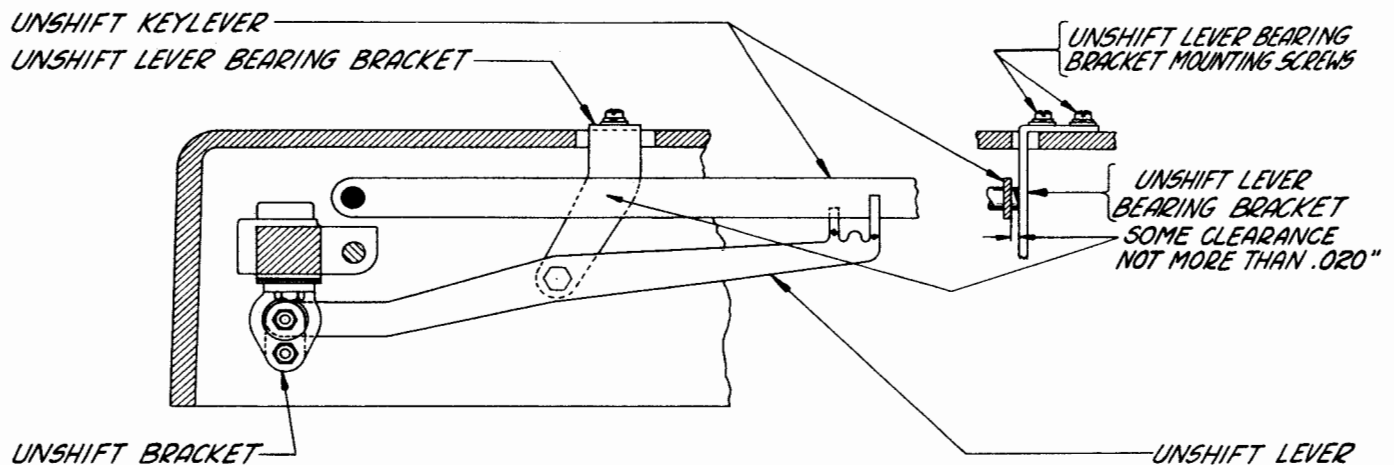

Figure 2
2.06 Shift-lever Bearing Bracket and Unshift-lever Bearing Bracket: There should be some clearance, not more than 0.020 inch, as indicated in Figure 2, between the unshift-lever bearing bracket and the UNSHIFT keylever. There should also be some clearance, not more than 0.020 inch, between the shift-lever bearing bracket and the SHIFT keylever.
(b) The shift and unshift levers should engage the SHIFT and UNSHIFT keylevers properly, as indicated in Figure 2, and the shift and unshift levers and connecting links should have some sideplay at their pivot points.